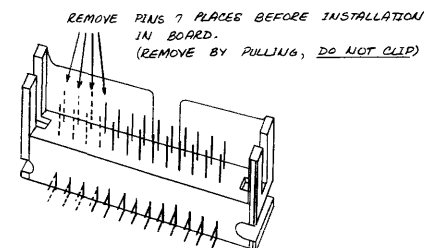

FIG 1
6. WHEN ASSEMBLING A 802131-02, J1 IS REPLACED WITH A 26 PIN CONNECTOR. PINS 11, 12, 13, 23, 24, 25 AND 26 ARE REMOVED COMPLETELY BEFORE INSTALLING THE CONNECTOR. SEE FIG 1.